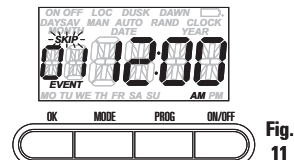

Fig. 11
- Press **PROG** again. The **SKIP** display (or **ON** or **OFF**, if the timer has been programmed) will begin flashing (Fig. 11).